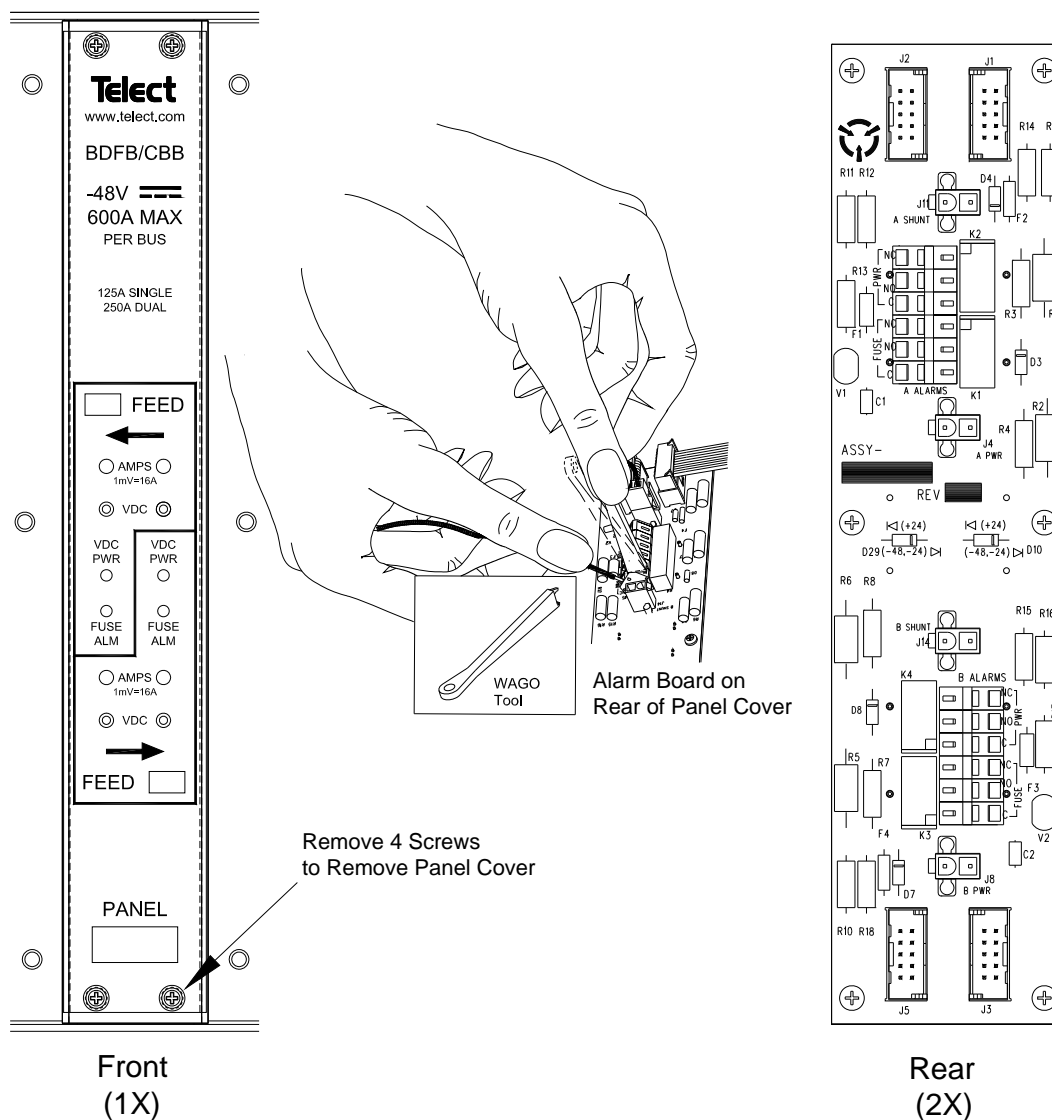

Figure 16 - Installing Alarm Cabling
1. See Figure 16 and then remove four Phillips screws (screws with cross-recessed heads) securing the alarm panel.